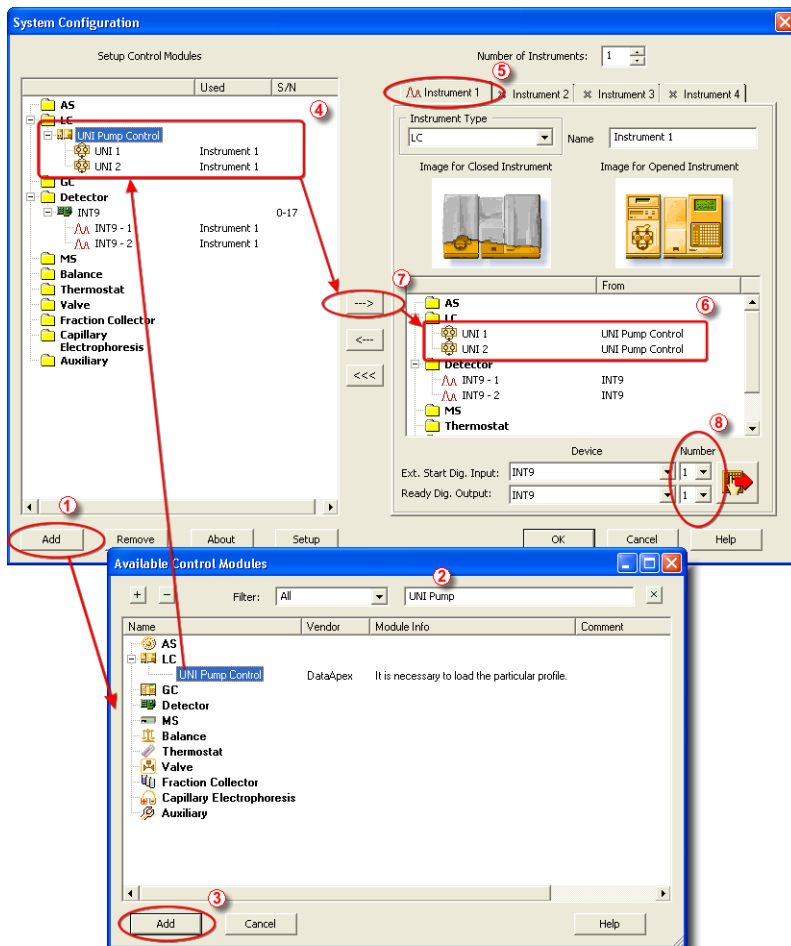

Fig 2: How to add Omniseparo pumps
- Press the **Add** button ① (see Fig 2 on pg 6.) to invoke the **Available Control Modules** dialog.
- You can specify the searching filter ② to simplify the finding of the driver.
- Select the **UNI Pump Control** item and press the **Add** ③ button.